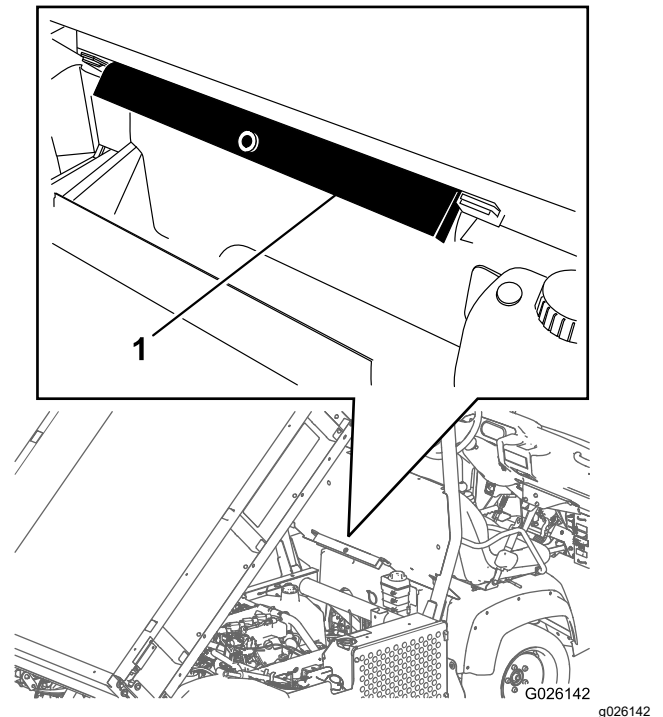

Figure 20
2. Remove the bed support from the storage brackets on the back of the ROPS panel (Figure 20).